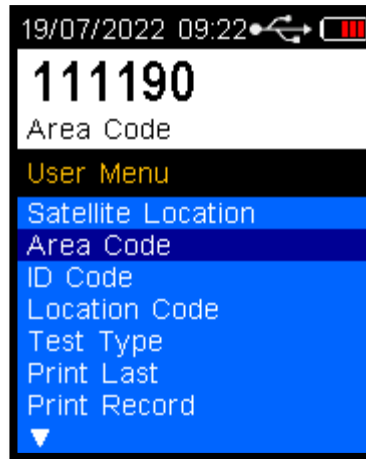

Figure 48 Area Code Set
- Repeat the above step until all the number required are displayed (Refer Figure 48).